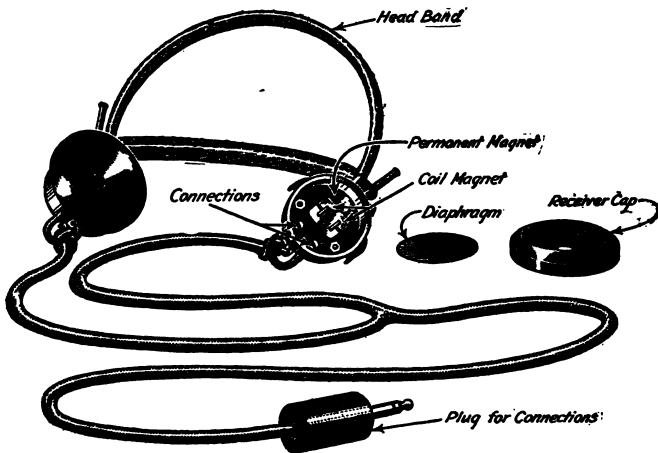

Fig. 18.—Headset, type P-11, with caps and diaphragm of one receiver removed.
*Telephone receivers.*—Telephone receivers, which are necessary with every type of radio receiving set used in the Signal Corps, depend both upon the electromagnet and the permanent magnet for their operation. One of the standard types of telephone receivers for radio work is illustrated in Fig. 18.
Since only very small currents are available, from a radio receiving set, a great many turns of insulated wire must be wound on the telephone receiver magnets in order to produce a magnetic field strong enough to cause a movement of the diaphragm. A fine wire is used in order that the necessary number of turns may be wound in the small space provided. Since the wire is very fine the resistance of the coils is high. For example, the resistance of the type of receivers shown in Fig. 18, is approximately 1,100 ohms.